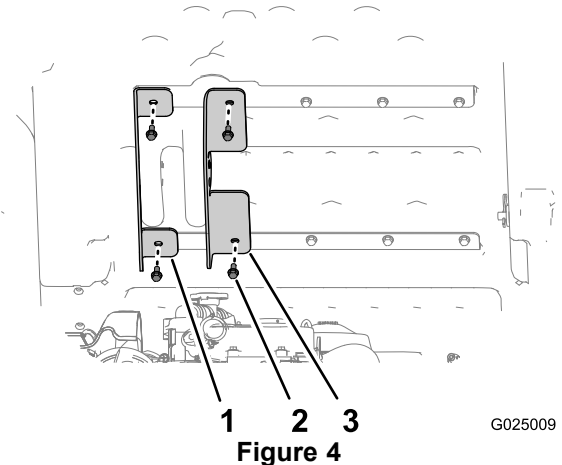

Figure 4
3. Align the left outboard-lift bracket (the bracket with the short flanges) to the outboard holes in the upper- and lower-bed braces (Figure 4).
4. Secure the outboard-lift bracket to the bed with the 2 bolts that you removed in step 1, and tighten the bolts hand tight (Figure 4).
5. Align the inboard-lift bracket (the bracket with the long flanges) to the inboard holes in the upper- and lower-bed braces (Figure 4).
6. Secure the inboard-lift bracket to the bed with the 2 bolts that you removed in step 2, and tighten the bolts hand tight (Figure 4).
- Tighten the 4 bolts (5/16 x 3/4 inch) that secure the inboard and outboard-lift brackets to the bed (Figure 4) to 15 to 16.6 N-m (133 to 147 in-lb).